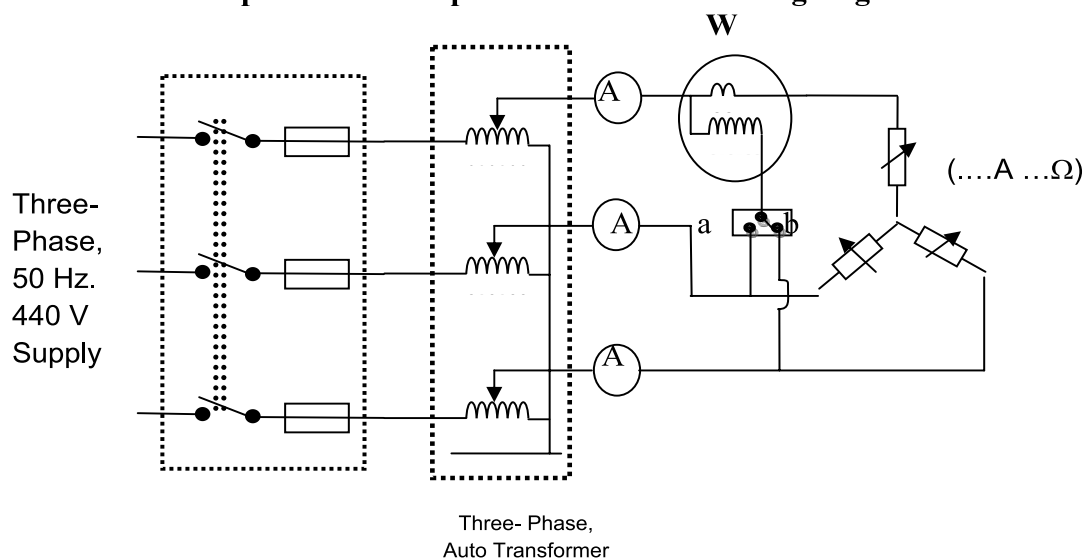

Figure 1:-Measurement of active power
1. Make the connections as per Figure 1.